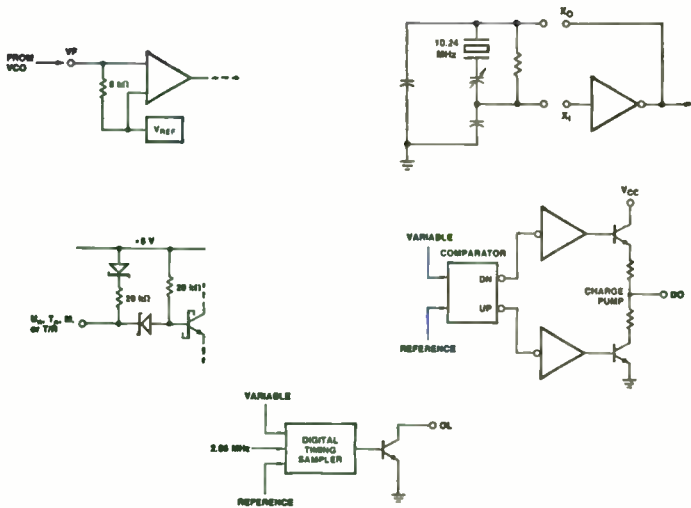

Fig. E-1. Input and output configurations.
Terminal VF is one input of a differential amplifier whose other input is connected to an internal reference voltage (Fig. E-1). The VF input resistance is typically 8K Ω and is biased in the active region to facilitate capacitive coupling from the VCO. It accepts either sinusoidal or rectangular waveshapes and responds to peak-to-peak amplitudes of 500 mV.
The 11C84 uses a 5-kHz comparison frequency, obtained by digitally dividing down from a 10.24 MHz reference frequency. The 10.24-MHz signal may be generated externally or internally. If the transceiver uses a separate 10.24-MHz oscillator, its output should be connected to terminal X_1 of the 11C84 and can be capacitively coupled. A peak-to-peak amplitude of 500 mV (Typ) is sufficient. The 10.24-MHz signal can be generated internally by connecting a crystal across terminals X_0 and X_1 , as shown in Fig. E-1.
The channel select, M and T/R inputs, in addition to having pull-up resistors to V_{cc} , are low-power Schottky TTL-type inputs, as shown in Fig. E-1. The inverters connected to X_0 and X_1 are also of this type. The quiescent HIGH and LOW logic levels applied to the Channel Select, M and T/R inputs should meet the same criteria specified for TTL logic; a HIGH signal should be 2.4 V or more, while a LOW signal should be 0.4 V or less. These values guarantee adequate noise margins. An input should not be driven more positive than + 10 V.
The detector output (DO), as shown in Fig. E-1, has three
The out-of-lock output is an open collector transistor (Fig. E-1), which is turned off in the locked condition. The transistor is turned on whenever the negative going edges of the comparator input signals differ by $\geq \pm 200$ ns or more. The transistor will